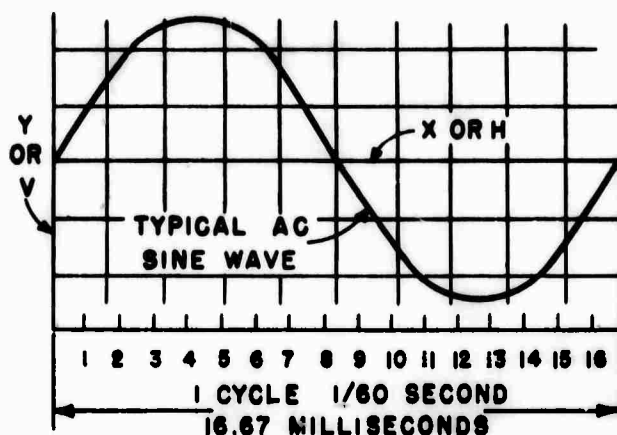

Fig. 10. CVT waveform.
2. Energize charger (PCB and BCB to ON), a single moving sine-wave trace should appear on the oscilloscope. Adjust FREQUENCY control slowly until the signal trace is stationary (turn control clockwise if waveform is moving to the left, and counterclockwise if waveform appears to move to the right). When stabilized, the waveform should appear similar to figure 10. If the signal trace appears reversed or inverted 180 degrees, reverse the oscilloscope power plug in the a-c receptacle. The signal trace shown in the figure is used to determine the CVT waveform, and to establish a time basis for the other displays which will be obtained later.
3. If a distorted waveform which is not similar to figure 10 is obtained, remove both Module A and Module B from the Master Board, and connect the oscilloscope vertical input test lead to pin 5 from the top of the master board, and connect